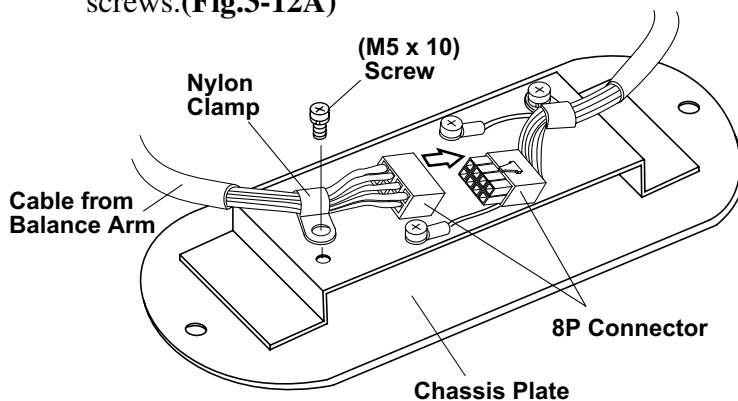

Fig.3-12B Connection of Cables and fixing on Bottom Cover
4. Connect 8P connector of the balance arm cable to 8P connector of the horizontal arm cable. Secure the wires from the balance arm to the bottom cover with nylon cable clamp to prevent the damage from twisting. (Fig.3-12B)